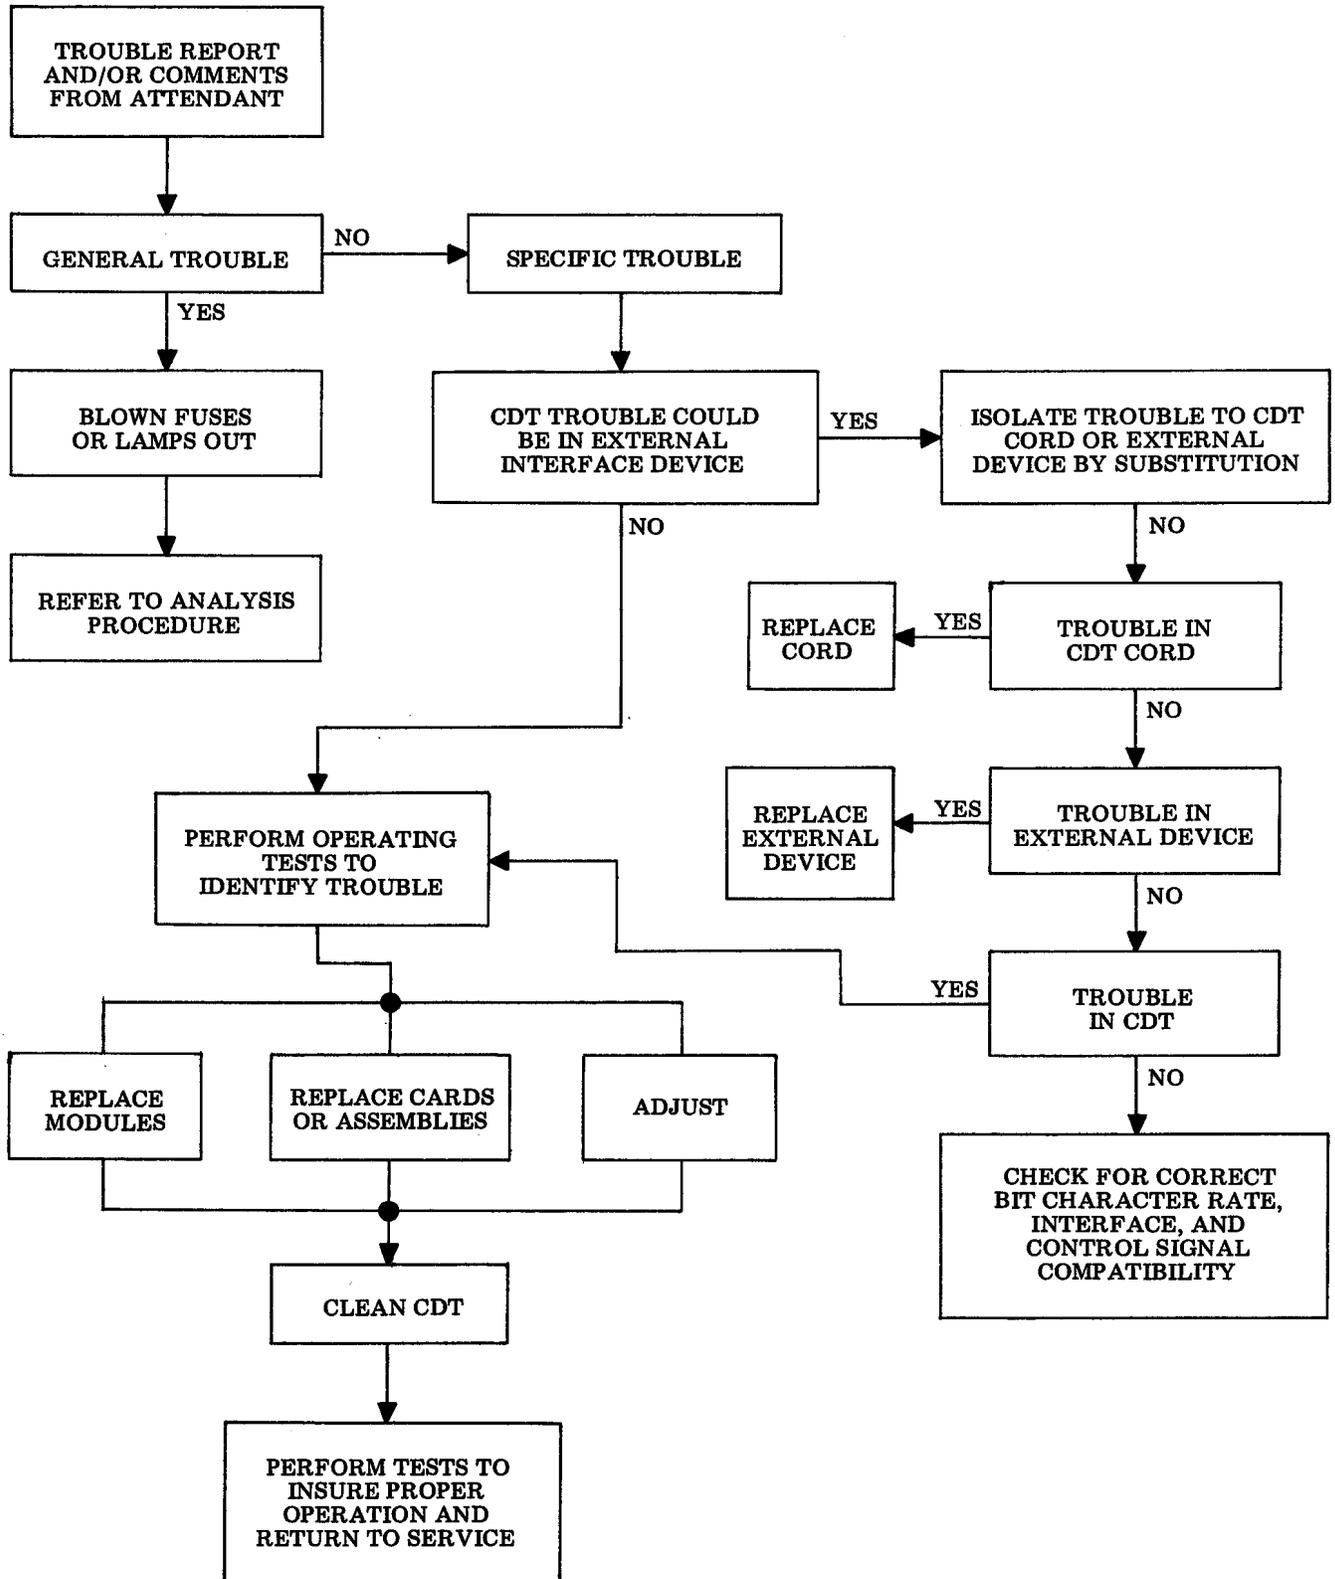

Figure 1 - Trouble Call Procedure
2.01 The procedure in Figure 1 illustrates the action that is normally taken when answering a trouble call.